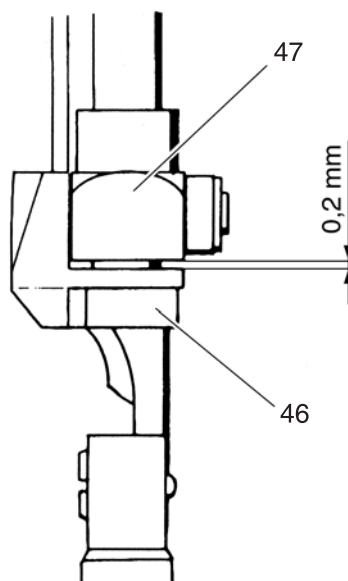

Fig. 21
- Set guide piece 46 at a clearance of 0.2 mm from cross head 47 (fig. 21).